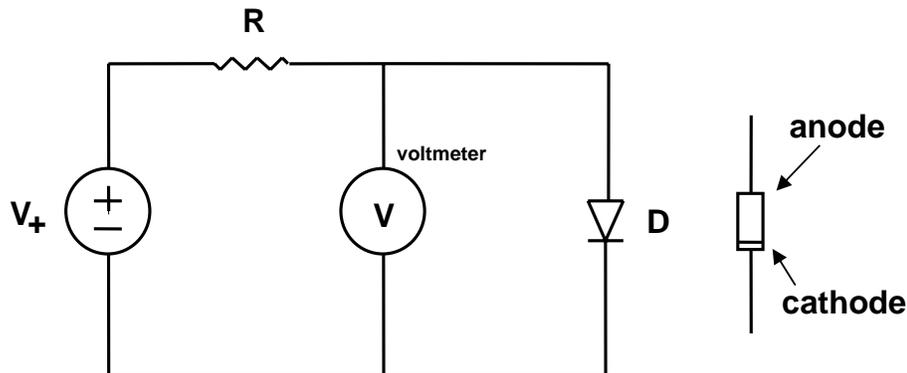

Figure 1. Basic diode test circuit
Wire together the circuit shown in Figure 1. Get in the habit of using the red and black *binding posts* on the *proto-board* for inputs and outputs (for example, voltage supply connections and voltmeter connections). These are much more stable than the wire sockets on the board itself. Notice that you can attach a wire to the binding post by unscrewing the top about half-way, slipping the stripped end of a wire through the exposed hole in the post, and screwing the top *gently* back down.
- a. Measure and record the voltage across the forward biased diode in Figure 1. Use the lowest possible *range* on the voltmeter for the best possible accuracy.
- g. Forward bias the diode again, as in Figure 1. Using the technique you practiced in the *prelab*, design an experiment to determine I_S and n . Briefly describe this experiment in your lab notes and carefully record the data. (Check-point: have the instructor look at your results before you leave!). **For your lab report, calculate I_S and n .**
- h. Reconstruct Fig. 1 again using the 1N914. Measure and record the diode voltage and *label* this measurement as "room temperature ~ 20 C." Get the aerosol refrigerant from the instructor and *briefly* (~ 1 sec.) apply it to the diode while watching the voltmeter. Record the highest voltage that the diode attains. For a constant current, the forward voltage of a silicon diode decreases 2 mV for every 1 $^{\circ}$ C rise in temperature. Engineers call this a *temperature coefficient* and write it as -2 mV/C. **How cold did your diode become after you sprayed it?** Grip the diode firmly between your fingers so that your body's heat warms the diode. **Record the result and calculate the temperature caused by your fingers.**
i. Remove the 1N914 diode from the circuit in Figure 1 and replace it with a forward-biased 1N34A or 1N60A. (This diode may be unmarked...ask the TA if you need help!). Measure and record the diode voltage, remembering to *label* data. The 1N914 is a *silicon* diode and has a forward voltage of about 0.7 volts. The *energy band gap* is the energy required to free an electron and allow it to conduct current. The band gap of silicon is 1.12 eV. The 1N34A is made from *germanium* which has a lower energy band gap (0.66 eV) and a lower “on” voltage (at the same current).